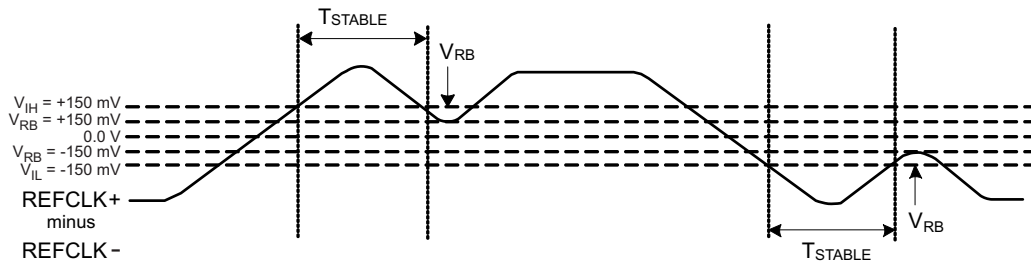

Figure 5. HCSL Ring Back Margin and Timing
- (4) T_{STABLE} is the time the differential clock must maintain a minimum ± 150 mV differential voltage after rising/falling edges before it is allowed to droop back into the $VRB \pm 100$ mV differential range. See Figure 5.
- (5) $t_{Rfin} = t_{Ffin} \geq 0.6$ V/ns.
- (6) Measured from -150 mV to $+150$ mV on the differential waveform. The signal must be monotonic through the measurement region for rise and fall time. The 300 mV measurement window is centered on the differential zero crossing. Slow is 0.53V/ns, medium is 1.05V/ns, and fast is 2.1V/ns. The PCIe CEM spec. has a window of 0.6V/ns to 4V/ns.
- (7) Assumes input duty cycle = 50%.
- (8) Skew measured between identical output types with identical loads, identical output power supplies, and identical edge rate settings.
- (9) Parameter depends significantly on power supply design and supply voltage rise time.